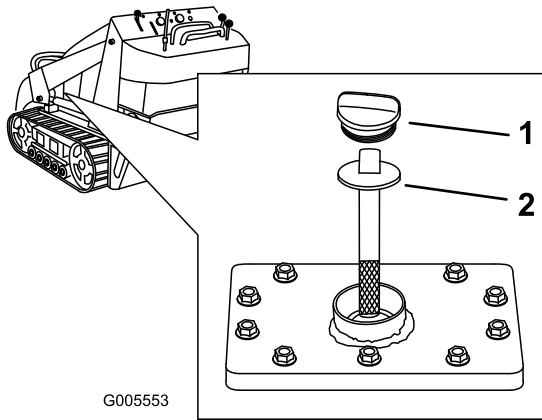

Figure 15
5. Clean the area around the filler neck of the hydraulic tank (Figure 15).
6. Remove the cap from the filler neck and check the fluid level on the dipstick (Figure 15).